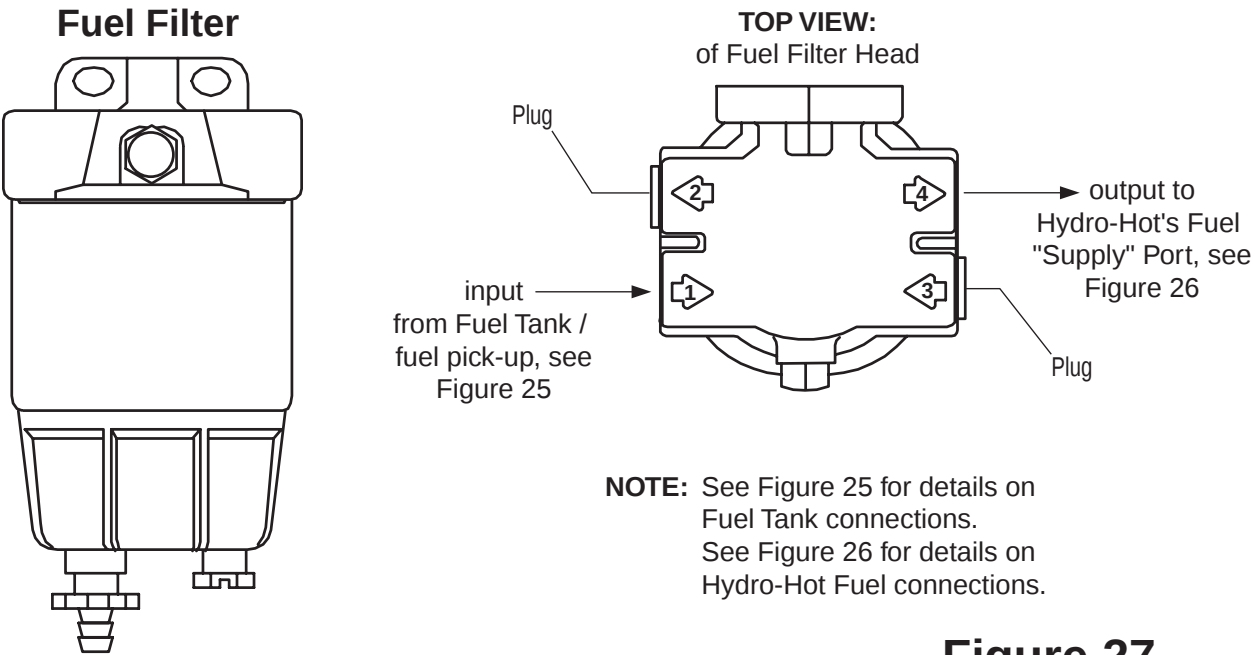

Figure 27
6. Cut the **Supply** line, at the Fuel Filter mounting location, and connect the Fuel Lines as illustrated in Figure 27.